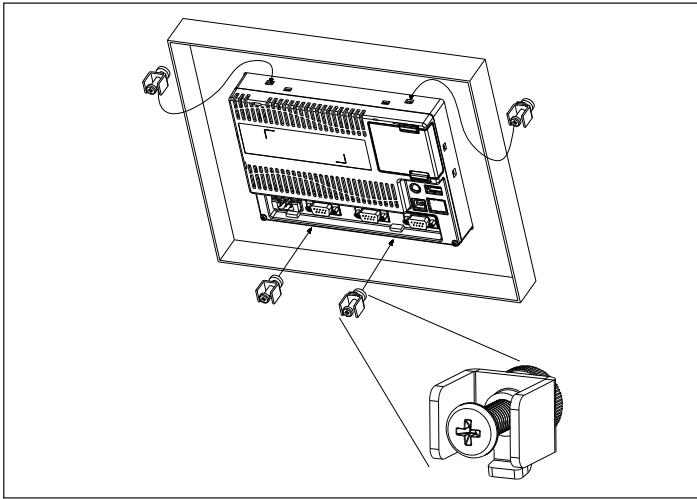

Figure 46. Inserting the Fasteners to Secure the Touch Screen Display.
8. Insert the fasteners into the slots in the rear of the display (see **Figure 46**). Initially, finger-tighten the fasteners.